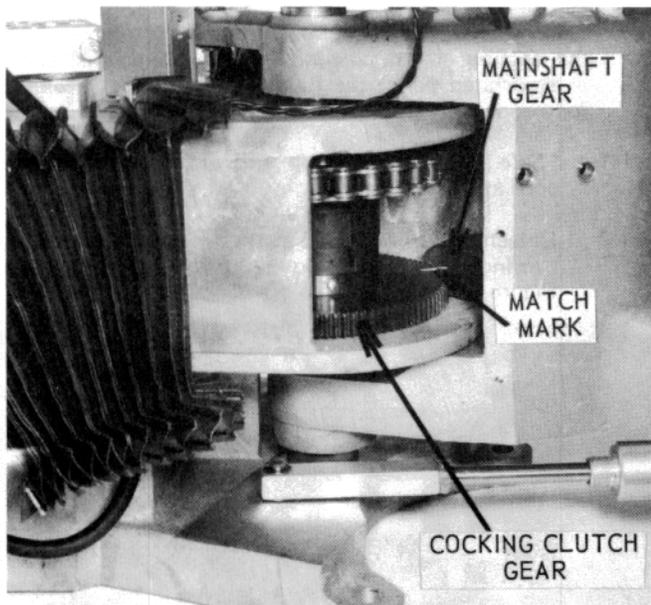

Figure 59 – Correct Meshing of Cocking Clutch Gear and Mainshaft Gear
- 4.2 Reinstall the cocking clutch and be sure the match marks on the cocking clutch gear and the mainshaft gear are in alignment (see Figure 59). Reassemble the mainshaft housing by installing the pivot shaft. If the match marks become misaligned during the assembly, they can be realigned by following the procedures in section VII-5, page 19.